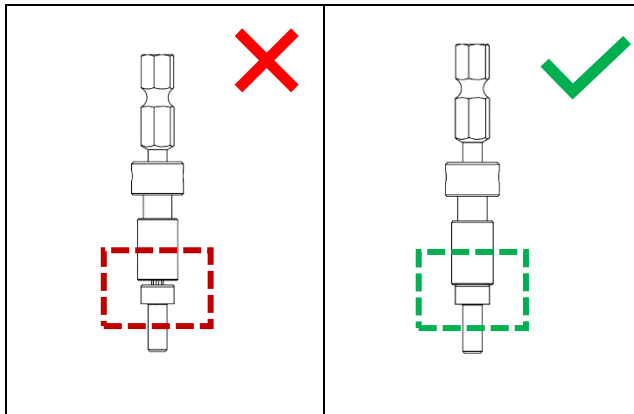

Figure 3: Adjustment of magnetic screw holder
1. Insert your screw bit (A) into the supplied magnetic screw holder (A).
2. Before fastening the bit inside the screw holder, check that the screw surface meets the magnetic ring on the screw holder (see Figure 3).